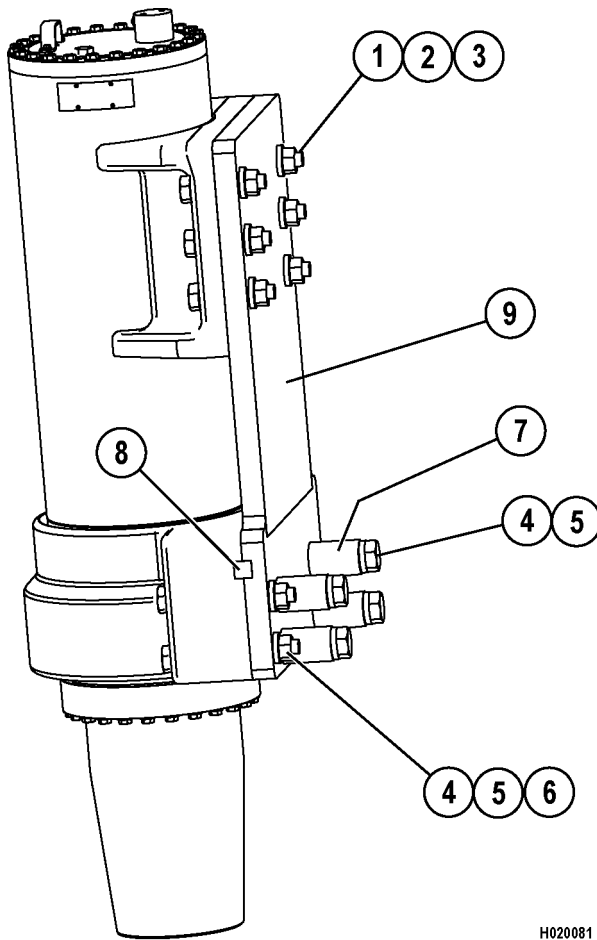

FIGURE 2-3. HARDWARE IDENTIFICATION
10. Remove capscrews (1, Figure 2-3).
11. Remove four outer capscrews (4).
12. Remove four inner capscrews (4) with spacers (7).
6. Identify and separate the hardware according to location on the suspension. Refer to Figure 2-3.